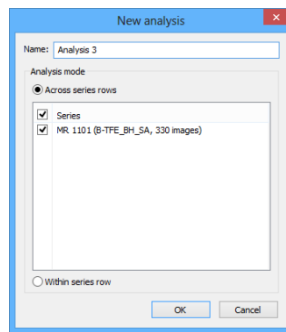

Figure 367 – Creating a new quantitative analysis
3. Click **New...** to open **New analysis** dialog (see Figure 367)